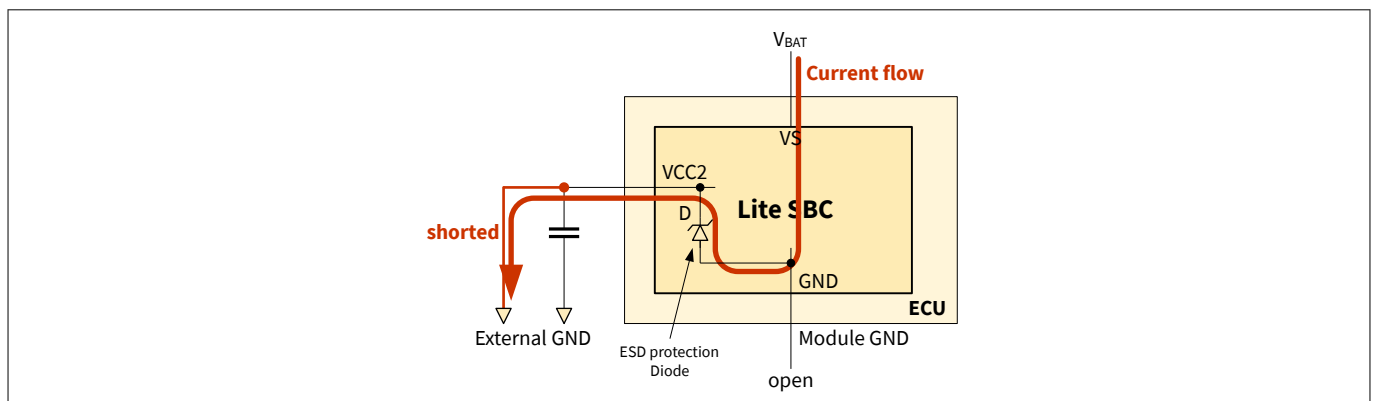

Figure 3 Scenario 3: Loss of module GND, connections to external GND, internal ESD diode
- Loads don't establish a path to external ground (see Figure 3 on page 8).